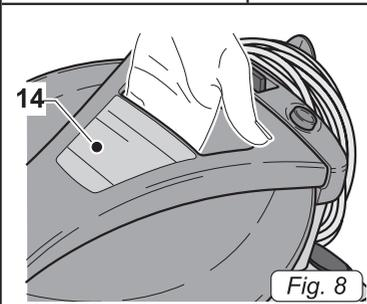

Fig. 8
- To lift it up, insert your fingers into the handle (14 Fig. 8) on the top of the cover.